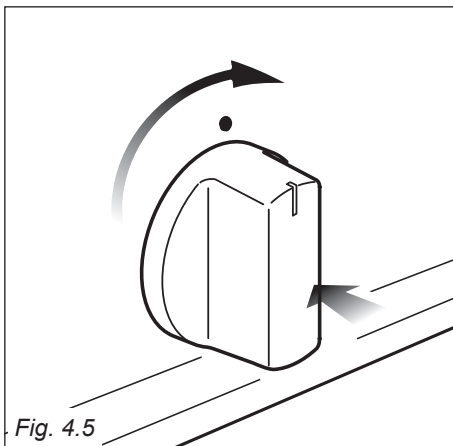

Fig. 4.5
2. Lightly press and turn the thermostat knob clockwise (fig. 4.5) to the position